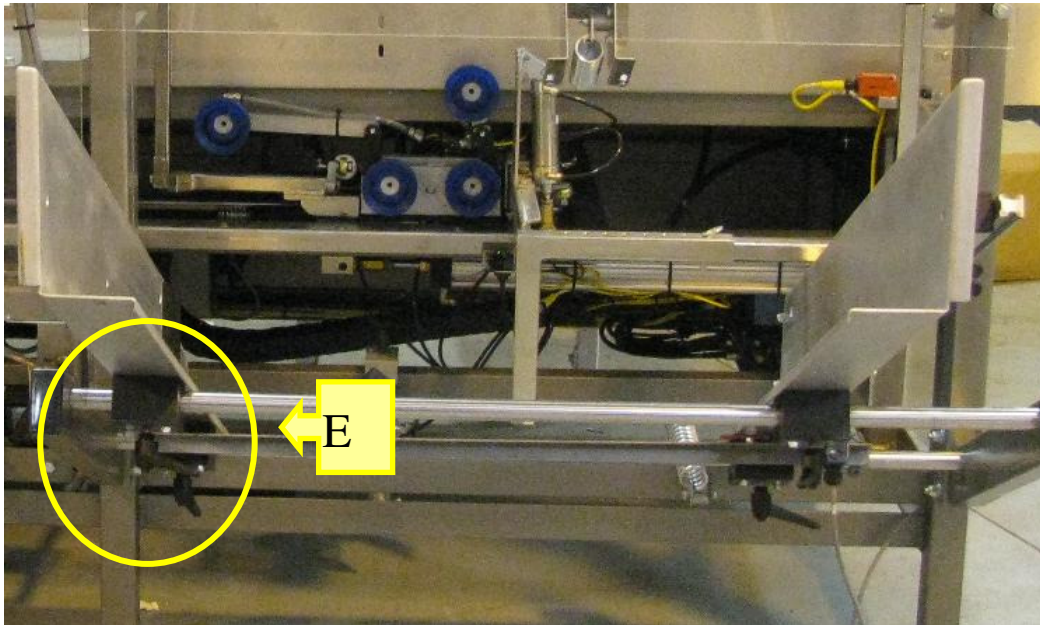

Figure 10 - Handle Major Side Adjustment (E)
- a. When adjusting allow the case to flow down the magazine freely but also retained by the Wedge and/case stop at the end of the Magazine. (See figure 10)